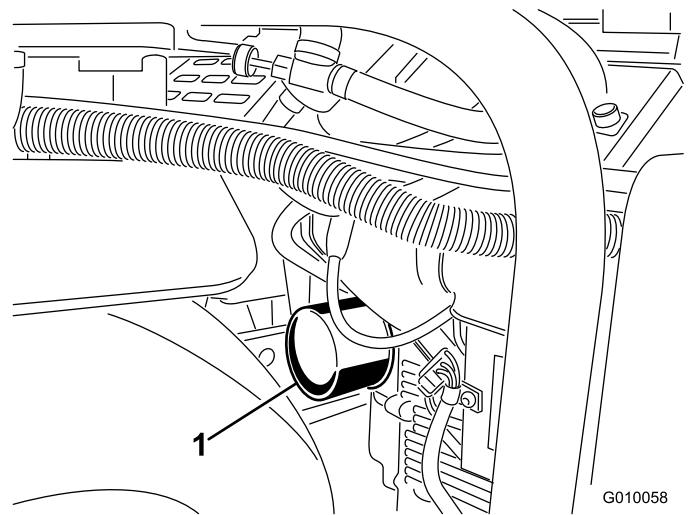
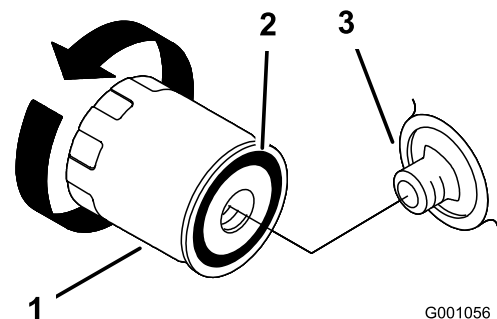

Figure 47
Figure 48
6. Place a shallow pan or rag under the filter to catch oil (Figure 47).
7. Remove the old filter (Figure 47 and Figure 48) and wipe the surface of the filter adapter gasket.